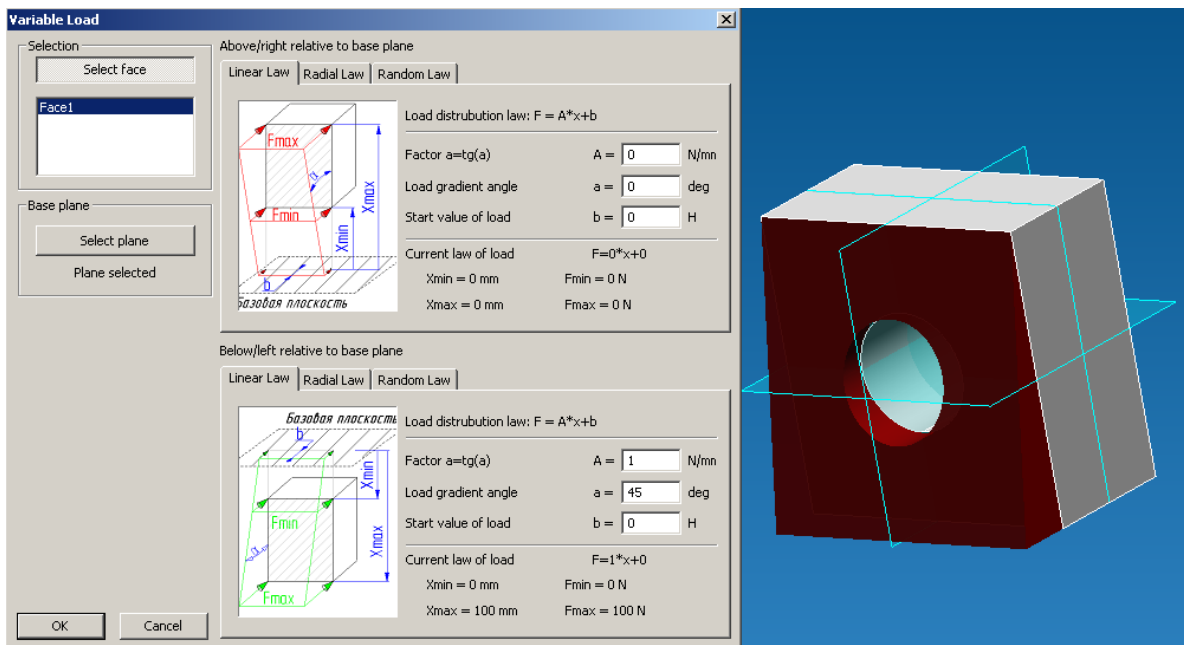

Fig. 2.9.19 Face selection and linear law
The next step is to set the faces, to which a distributed load will be applied. After you select a base plane the system goes automatically into the Face Select Mode (the **Select Face** button is depressed) (Fig. 2.9.19).
*Linear Law* (fig. 2.9.19) corresponds to the equation of line  $y = Ax + b$  [N] where  $A = \tan(a)$  is the *tangent of inclination angle*,  $a$  - *inclination angle*,  $b$  is the *start value of load* on the base plane level.